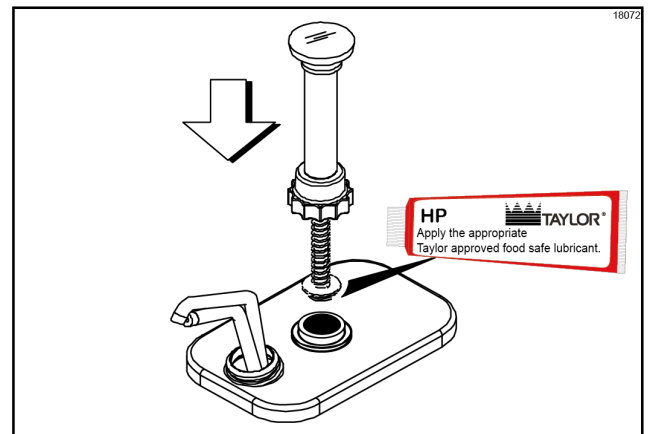

Figure-95
14. Lubricate the seal assembly and install the plunger assembly into the cylinder opening in the pump body. (See Figure-95)